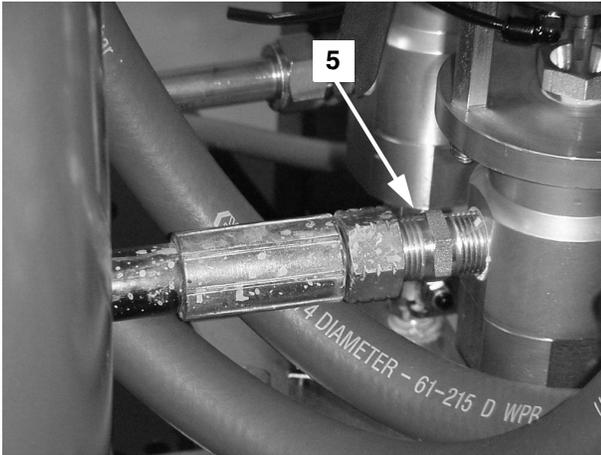

FIG. 12
12. Install nipple (5) into metering valve inlet. FIG. 12